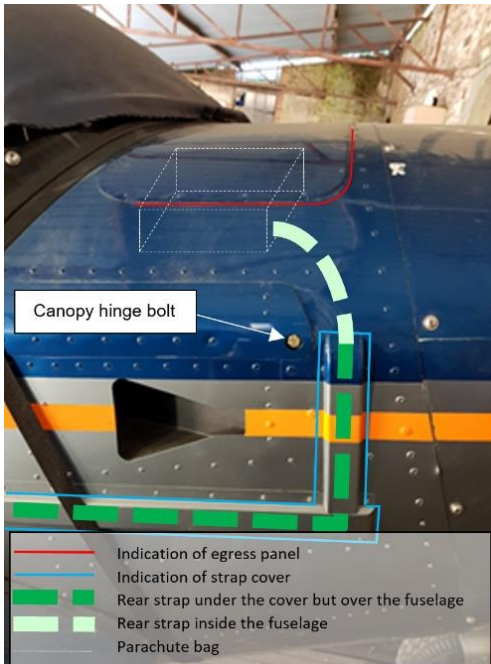

Figure 4: Incorrect installation
Figure 4 shows the abnormal rear harness routing inside the front parachute compartment encountered on the installation performed by CZAW. The rear harness comes into the parachute compartment through a hole cut in the riveted fuselage skin at the level of the canopy hinge bolt². This installation holds the rear strap under the fuselage skin of the parachute compartment, leading to a strap partially captured in the front fuselage structure and thus not able to extend above the cockpit when the system is activated.
- if not (like observed in Figure 4) or if any doubt, contact either the airplane manufacturer³, or the parachute system manufacturer or any specialist in emergency parachute system installation **for a safe re-installation of the rear harness**;